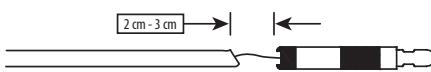

Figure 7
- Gently separate the proximal and distal ends of the open pusher. Then, under fluoroscopy, pull the proximal portion of the implant delivery pusher approximately 2–3 cm to confirm implant detachment per IFU (Figure 7).